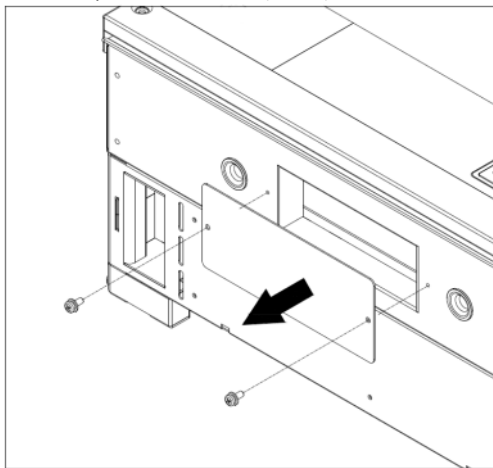
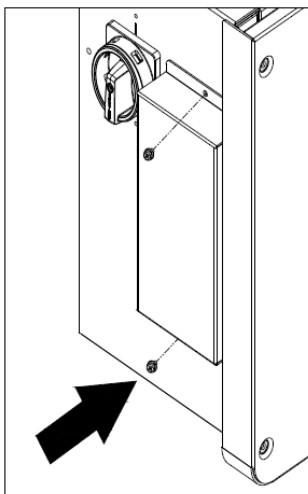

Figure 2.10 – Main Section Cover Plate
Figure 2.16 - Dimensions of Anti-Theft Padlock
(4) Installing the wiring box
- ① Remove the cover plate at the bottom of the main section. (see Figure 2.10)
(7) Attach the cover board as shown in Figure 2-10 to the left side of the wiring box. (see Figure 2-16)